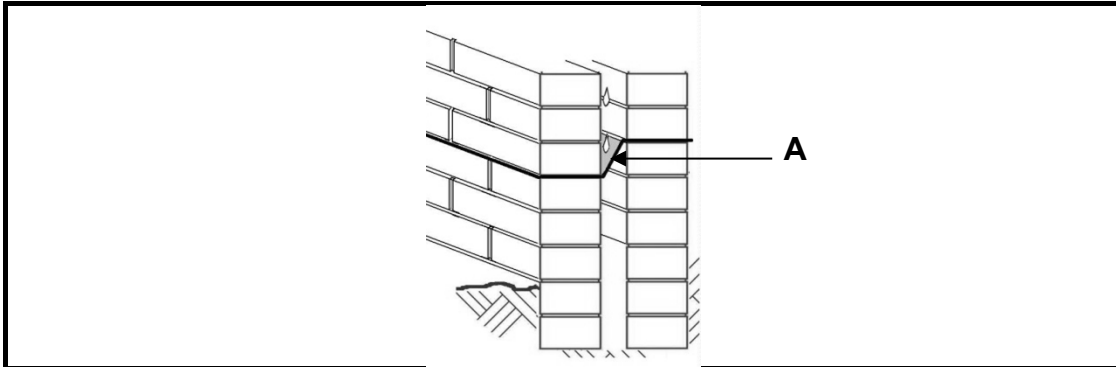

FIGURE 5.1
5.1 Answer the questions about the wall in FIGURE 5.1.